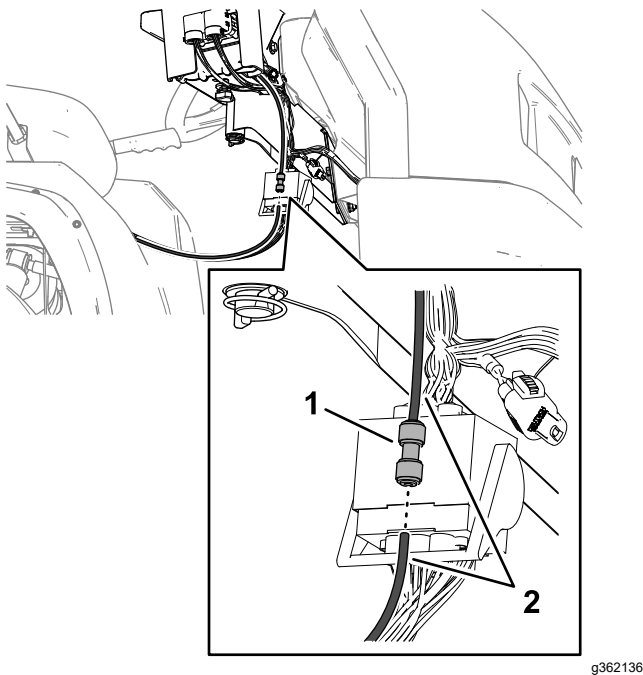

Figure 132
5. Remove 1 of the pressure-sense tubes from the push-to-connect fitting as shown in Figure 132.